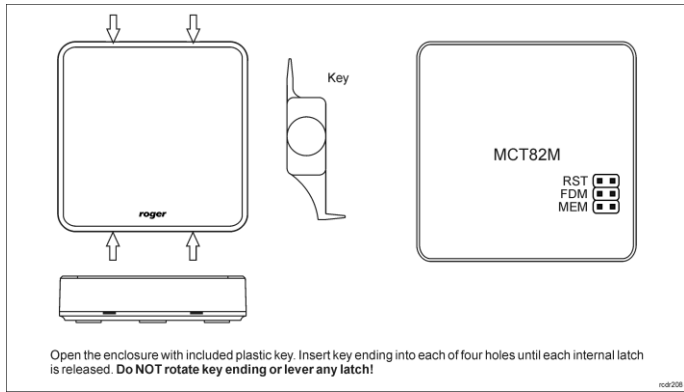

Fig. 3 MCT82 enclosure opening and location of service contacts
**Note:** Remote configuration of device from VISO v2 software is possible only if jumper is placed on MEM contacts (fig. 3). If the jumper is removed then such configuration is blocked. In case of factory new device, jumper is placed on MEM contacts.
In RACS 5 v2 system the reader can be installed at site without previous configuration. According to AN006 application note, its address and other settings can be configured from VISO v2 management software and during such configuration the access to its service contacts (fig. 3) is not required.
2. Remove jumper from MEM contacts (fig. 3) if it is placed there.
2. Place jumper on FDM contacts (fig. 3).